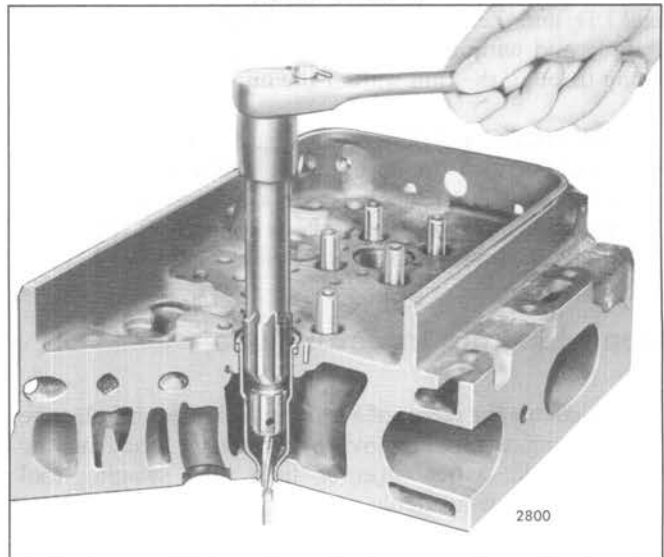

Fig. 4 - Reaming Injector Tube for Injector Body Nut and Spray Tip with Tool J 22525-1
First, *hand reamed*, (Fig. 4) to receive the injector body nut and spray tip.
- contacts the injector tube (Fig. 4). Clean out all of the chips.